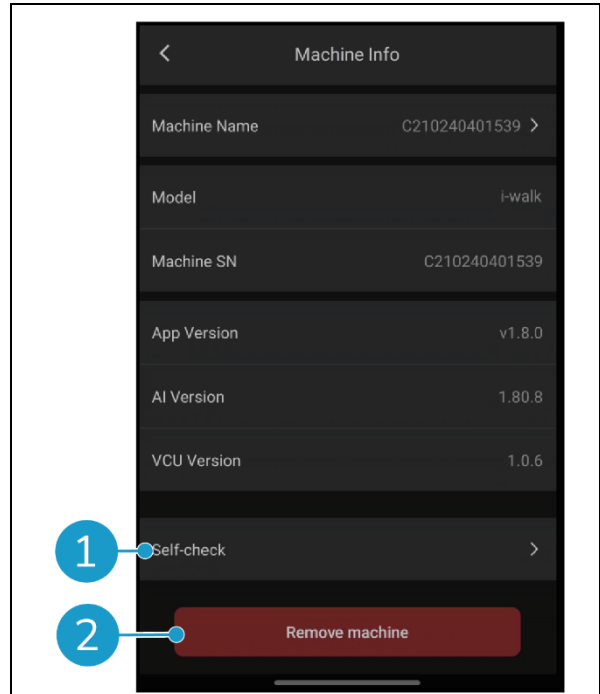

Figure 36
- Tap the [Self-check] button (Figure 36, pos. 1) to run a diagnostic check on the machine.
- Tap [Remove machine] (Figure 36, pos. 2) to remove the machine from your i-walk app.